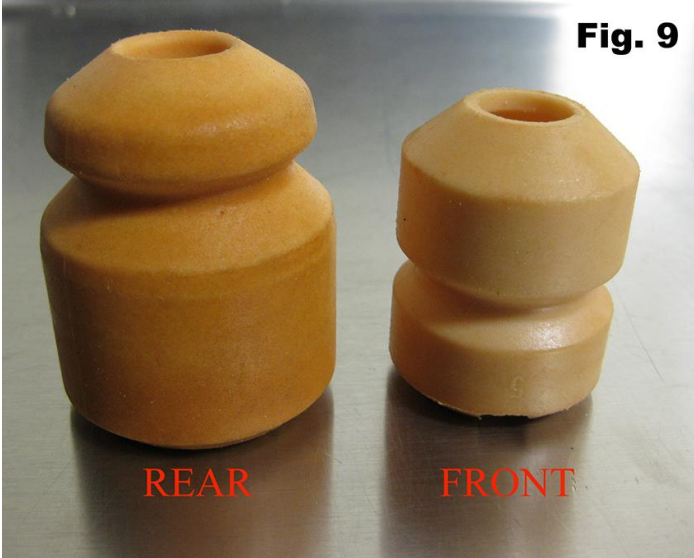

Fig. 9
***NOTE: Front and rear bump stops are different, see Fig. 9**